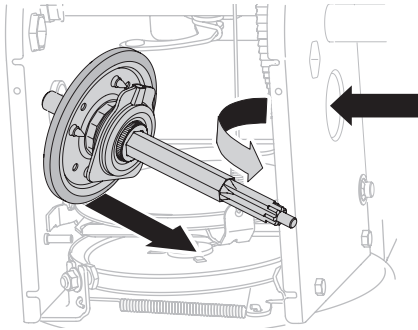

Figure 92
- Carefully position hex shaft downward and to left before carefully sliding friction wheel assembly off shaft (Figure 92).